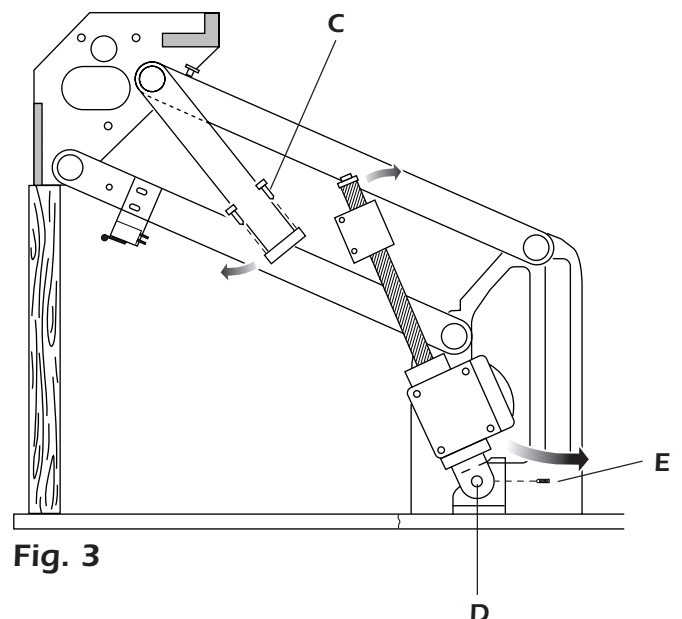

Fig. 3
- 8) Unscrew the 4 M8 Allen screws "**C**" - see figure 3.
- 9) Remove the 2 Seeger rings from the pin "**D**" and unscrew the M5 dowel "**E**" - see figure 3.
- 10) Remove the motor as shown in figure 3.